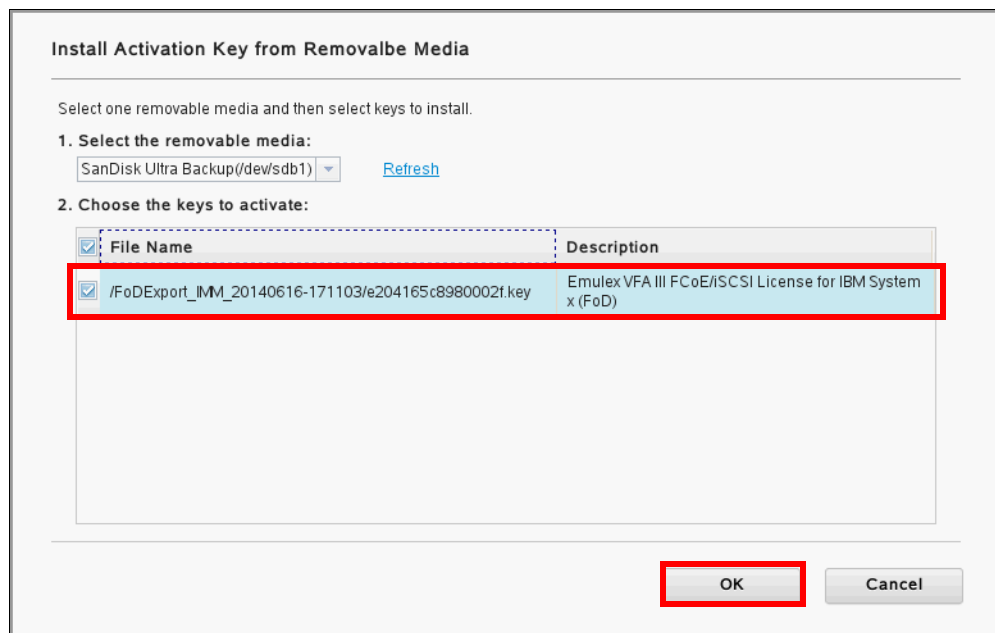

Figure 3-20 Existing FoD key on removable media
2. As shown in Figure 3-20, select the activation key and click **OK** to install. The installer checks all directories on the USB key for valid key files and shows them all in this list.